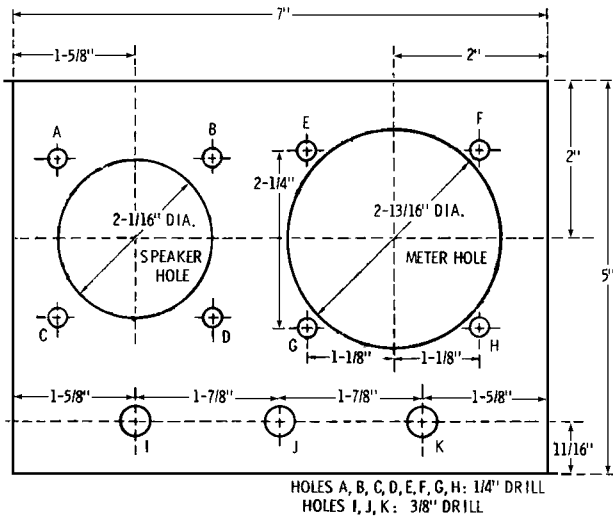
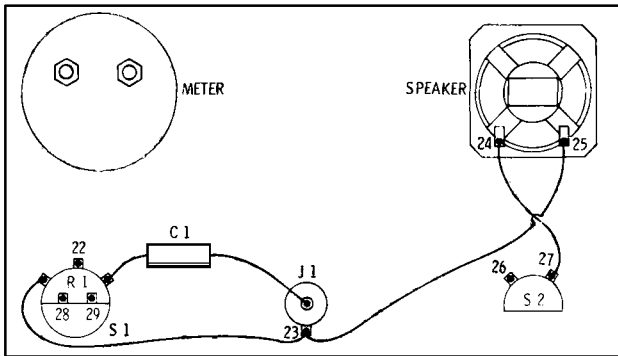

Fig. 7-3. Front-panel drilling plan for the signal tracer.
Fig. 7-6. Components and wiring on front panel.
of the instrument (the self-contained battery stands to the left, front). Fig. 7-3 gives the complete drilling plan for the front panel. Fig. 7-4 is the circuit diagram. Figs. 7-5A and 7-5B show the layout of components and wiring of the circuit board; and Fig. 7-6 shows the mounting and wiring of components on the front panel.
2. Drill the front panel of the *Minibox*, using the plan given in Fig. 7-3.
5. Wire the front panel, as shown in Fig. 7-6